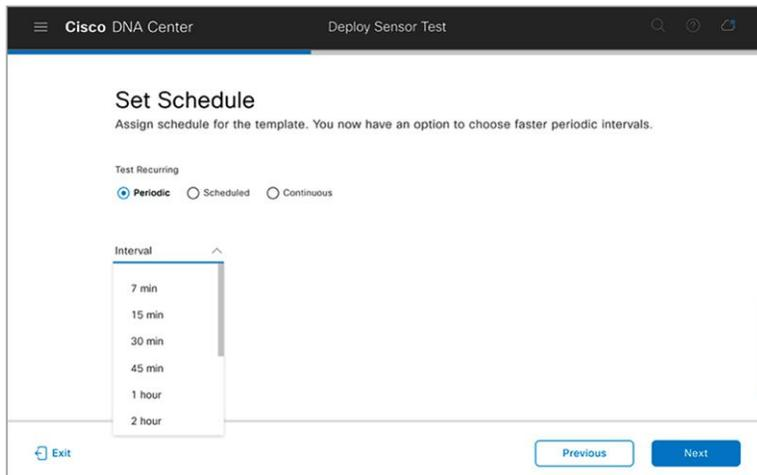

Figure 87.
23. Select a sensor test interval to determine the frequency with which the sensor runs the test, then click **Next** (**Figure 87**).